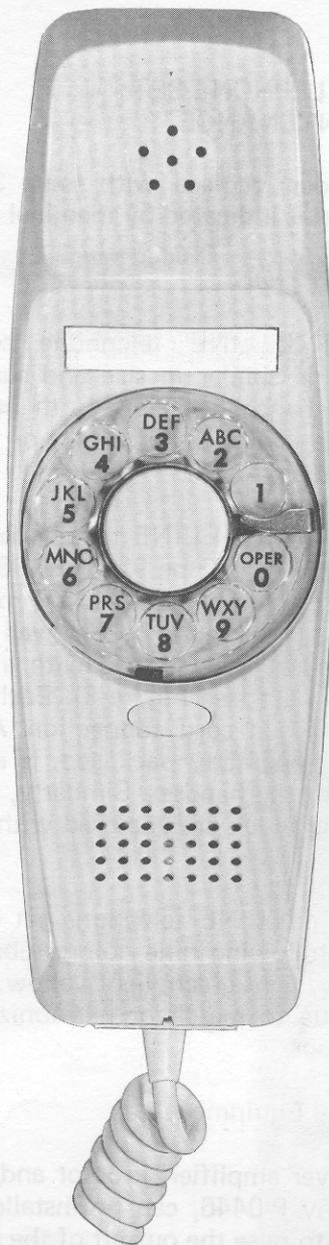
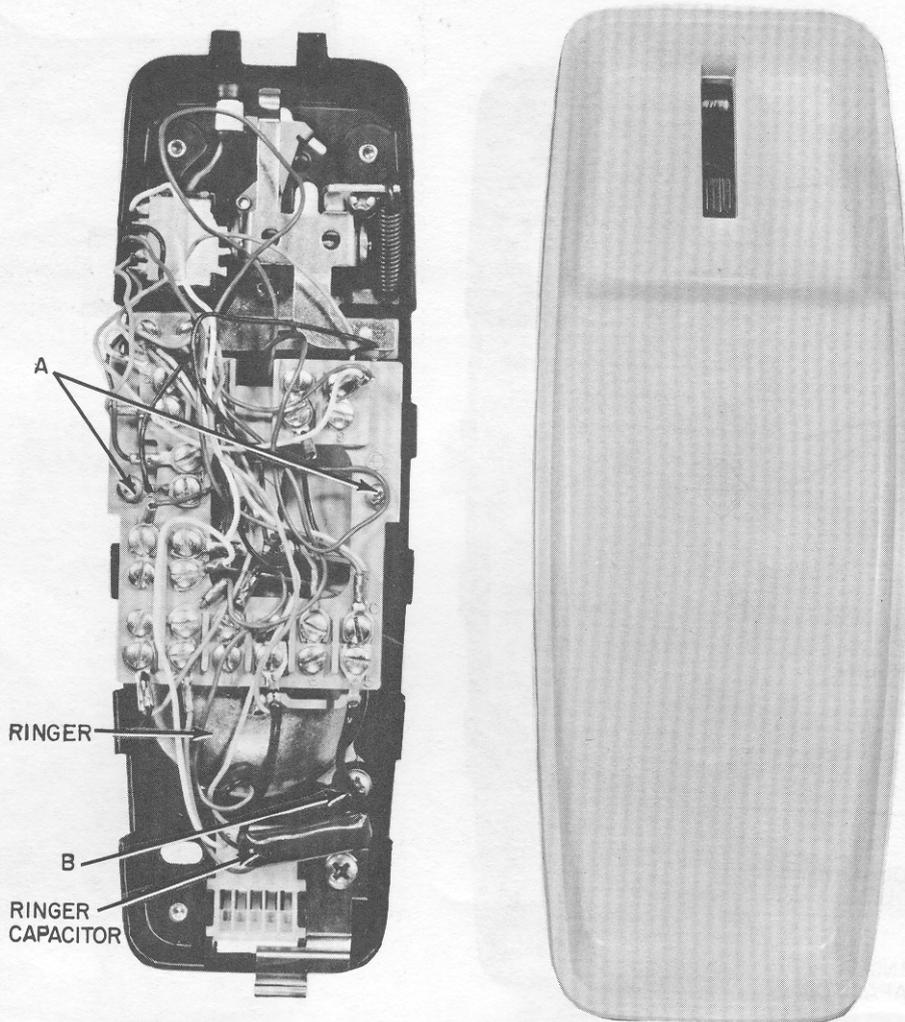
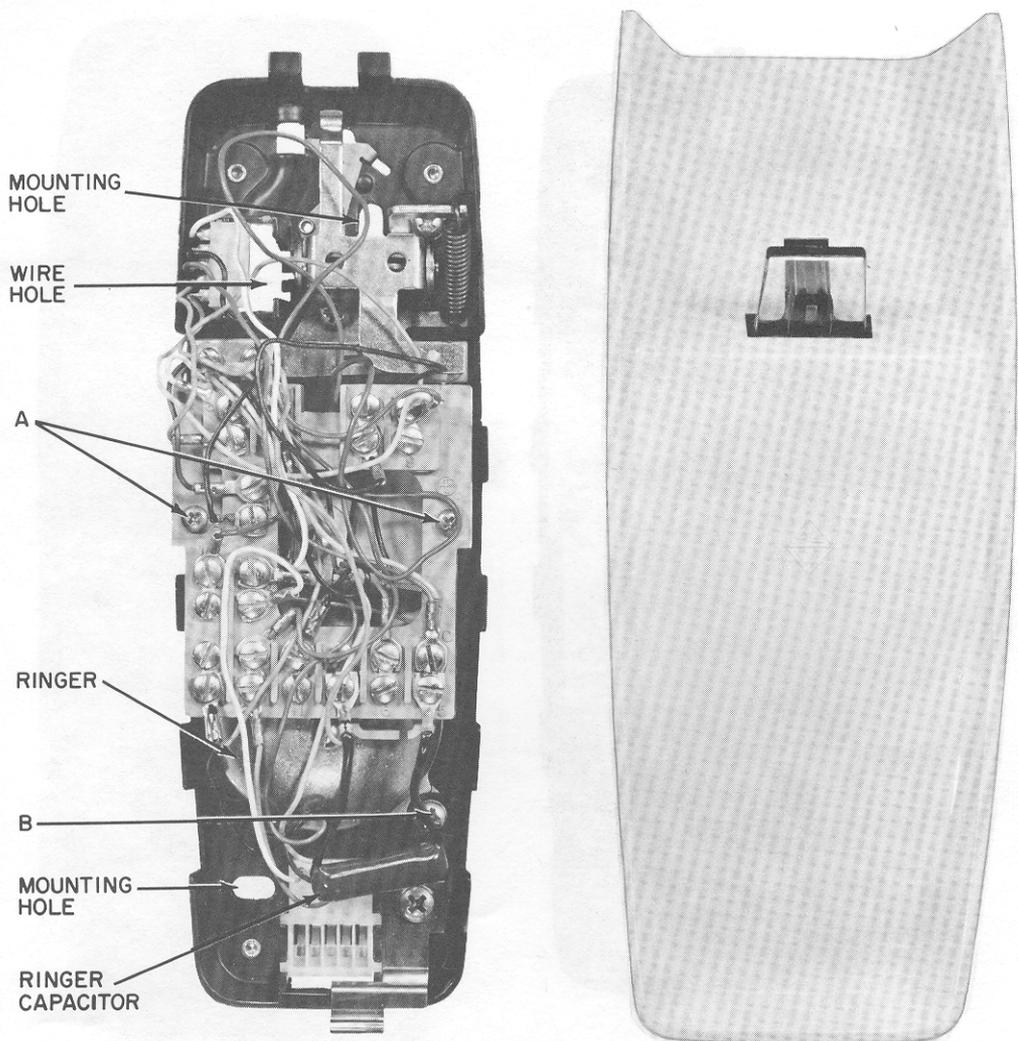

Figure 1. Type 980 Handset.
Figure 2. Type 981 Desk Base and Housing.
Figure 3. Type 982 Wall Base and Housing.
2.02 When the STYLELINE telephone set is used as a desk set, a Type 980 (NC 980) handset (see Figure 1) is combined with a Type 981 (NC 981) desk base (see Figure 2). For wall service the Type 980 handset is combined with a Type 982 (NC 982) wall base (see Figure 3). Each module is arranged for plug-in cord connection. A retractile handset cord, separately packaged, is enclosed in the carton with the handset. Similarly, a line cord and connecting block are enclosed with each desk base.
1.01 This section covers the description, installation, and field maintenance of the GTE Automatic Electric Type 980 STYLELINE Telephone Set (Figure 1).
- (1) After installing concealed line wiring, allow enough slack in the wire to connect to the terminal board.
- (2) Pass the wire through the wire hole in the top left hand side of the base (see Figure 3).
- (3) Mount the base to the wall utilizing the keyhole slot above the hookswitch and the horizontal slot near the handset cord jack (see Figure 3 for mounting holes). Use two number 10 screws.
- (2) Remove the two screws (A, in Figure 2 for Type 981 or in Figure 3 for Type 982), and swing the terminal board over.
- (3) Remove the ringer retaining screws (B, in Figure 2 or 3, as applicable).
- (4) Place the new ringer with grommets in place in its proper location on the base plate aligning mounting holes and secure with the three screws provided.
- (5) Replace the terminal board and screws.
- (6) Replace the housing.